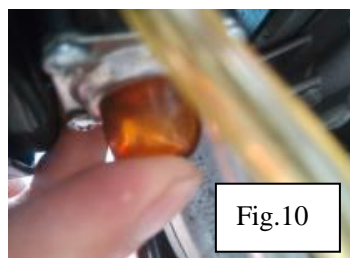

Fig.10
2. Press the primer button 8 times, until the petrol flows in and out of the discharge hose located above the fuel tank.(see Fig.10)